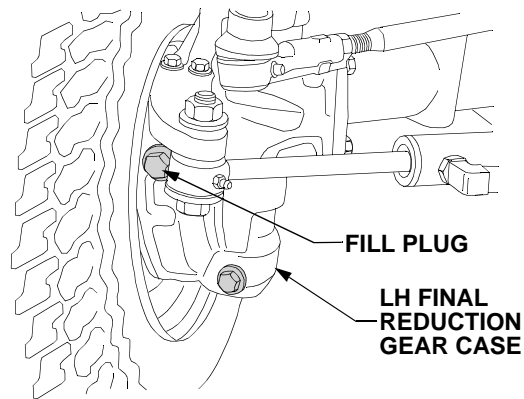

Figure 49
- Locate the fill plugs approximately midway up on the rear of the *right* and *left* gear cases. See Figure 49.